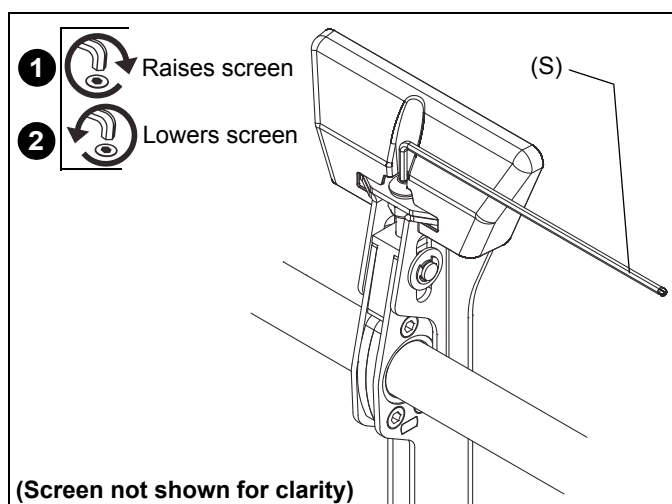

Figure 13
1. Turn to right (tighten) to raise side of screen. (See Figure 13)